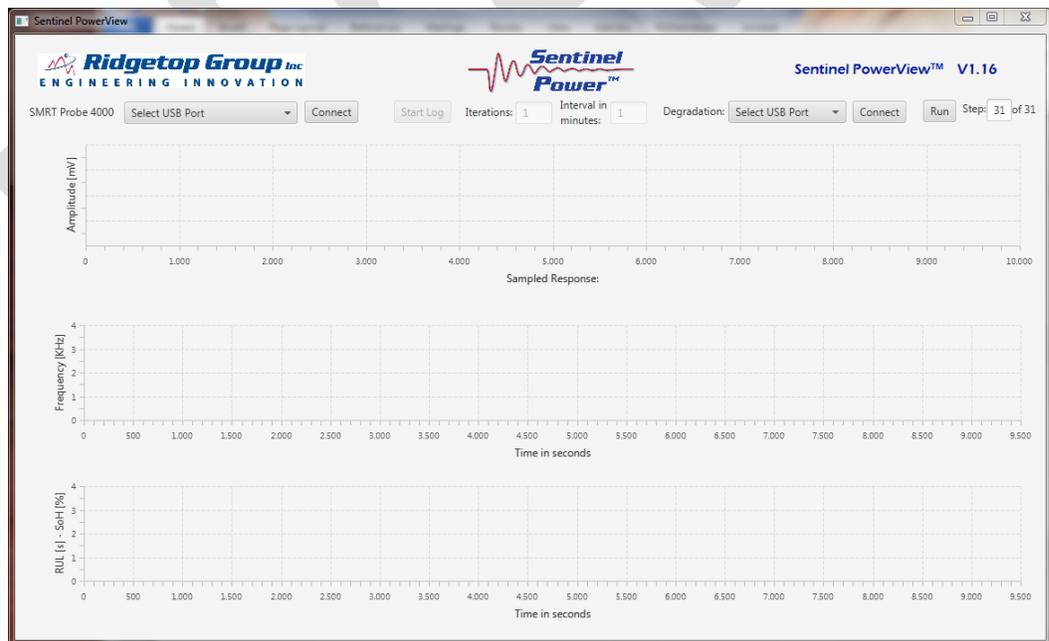

Figure 7: Sentinel PowerView interface before data collection
3. The Sentinel PowerView GUI appears (Figure 7).